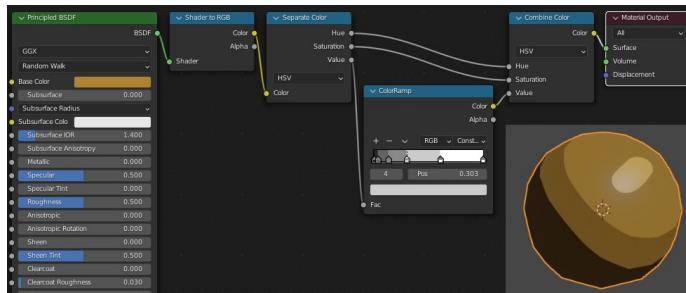

Figure 13-1 Simple Cell shading using the color ramp node
2. To set up a very simple arrangement of material nodes as shown in Figure 13-1, increase the size of the bottom window area and switch it from Timeline to Shader Editor. Change the name of the material from Material to comic. To see the results of changes to the node arrangements you will need to change the Viewport Shading to **Rendered** with the Render Engine set to **Eevee**.